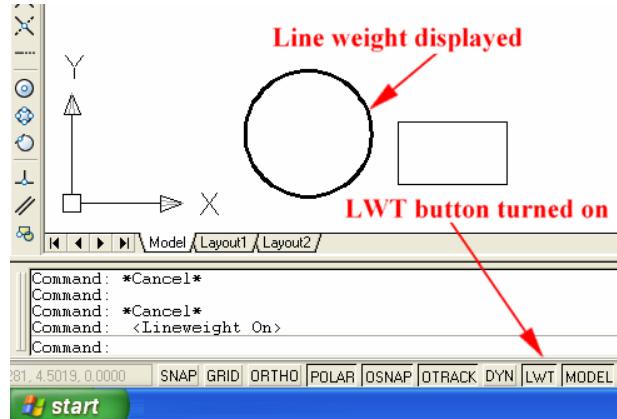

Figure 1-6E: The LWT button.
- **Lineweight window:** Notice that all line weights are measured in metric unit (millimeter or mm). Select appropriate line weight (*Figure 1-6C*) and click the **OK** button to return to the **Layer Properties Manager** window. In the drawing window, the line weight of the objects can be displayed when the **LWT** button is turn on (*Figure 1-6E*).